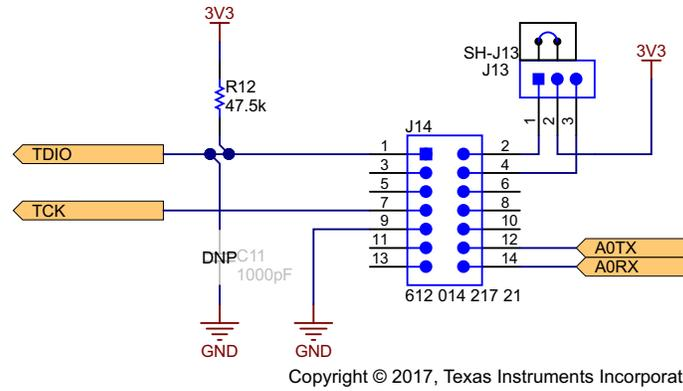
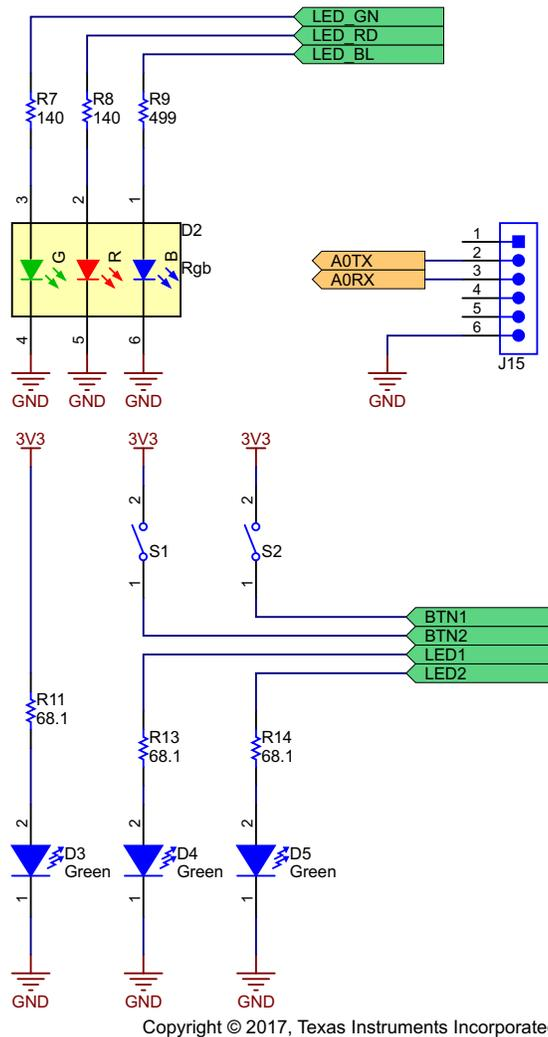

Figure 10. JTAG Interface for MSP-FET430UIF Programmer
Figure 11. User Interface
- User interface: The board indicates with a green LED the availability of the 3.3 V of the integrated LDO of the TIOL111. In addition, the user has the flexibility to use two push-buttons, two green LEDs, and one RGB LED. All can be controlled by the MSP430 MCU (see Figure 11).
- UART interface: The system has the possibility to communicate through a UART interface (J15) with a PC (see Figure 11).
- JTAG programmer: This is the connector (J14) for the MSP-FET430UIF programmer (see Figure 10).
With the JTAG connector J14, the MSP-FET430UIF can be connected to program the MSP430FR5969 (see Figure 10). The UART backchannel on J15 (see Figure 11) can be used to communicate with the TIDA-00461.